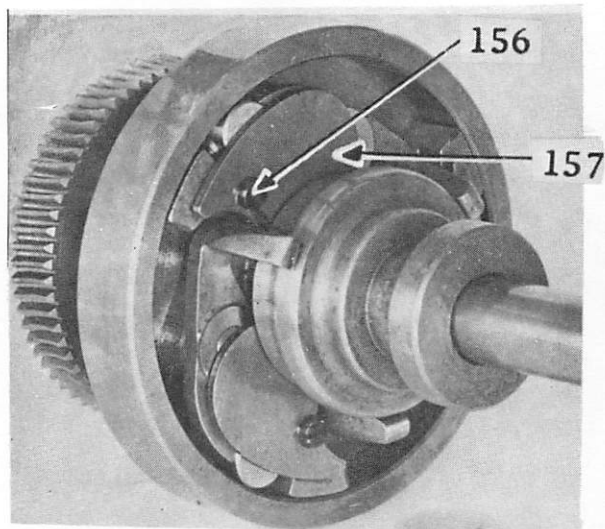

Fig. 27 Rapid Feed Clutch Showing Position of Sleeve when Clutch is Disengaged
Remove the pattern wheel. This will give access to the clutch rollers through the opening in the left side of the machine. Then slightly loosen the screw (156, Fig. 27) which holds the retainer plate (157, Fig. 27) in position and remove the plate. Do not take out the screw (156).